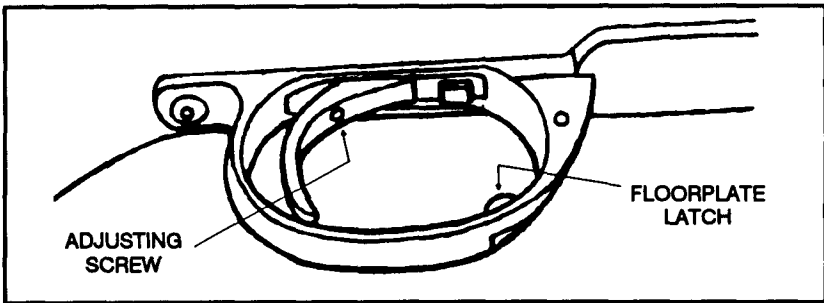

Figure 2-6. Trigger adjustment.
c. **Trigger Assembly.** Pulling the trigger fires the rifle when the safety is in the "F" position. The operator may adjust the trigger pull force from a minimum of 2 pounds to a maximum of 8 pounds. This is done using the 1/16-inch socket head screw key provided in the deployment kit. Turning the trigger adjustment screw (Figure 2-6) clockwise increases the force needed to pull the trigger. Turning it counterclockwise decreases the force needed. This is the only trigger adjustment the sniper should make.